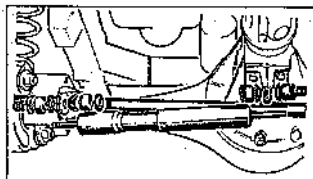

Fig. 11.14 The steering damper and mounting bushes (Sec 15)
- 3 Undo the steering damper locknuts and retaining nuts at the track rod and axle casing mounting brackets and withdraw the outer bush assembly from either end (Fig. 11.14).